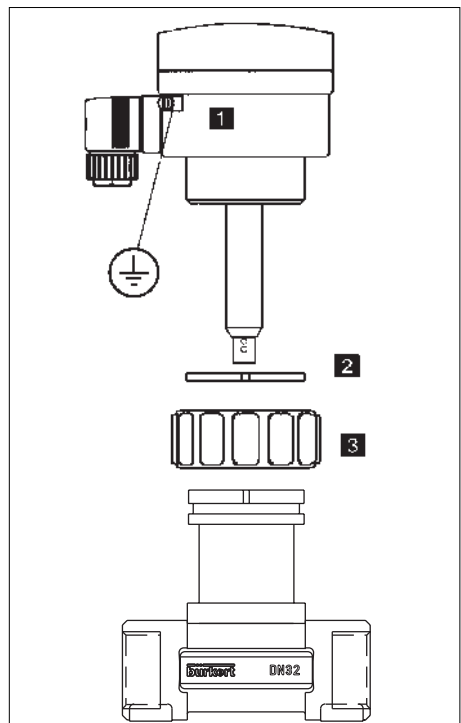

Fig. 3.1 Installation on a fitting S020
**An earthing point is provided via an earth lug on the side of the enclosure (see fig. 3.1). For EMC purposes, this point must be connected locally to a good earth.**